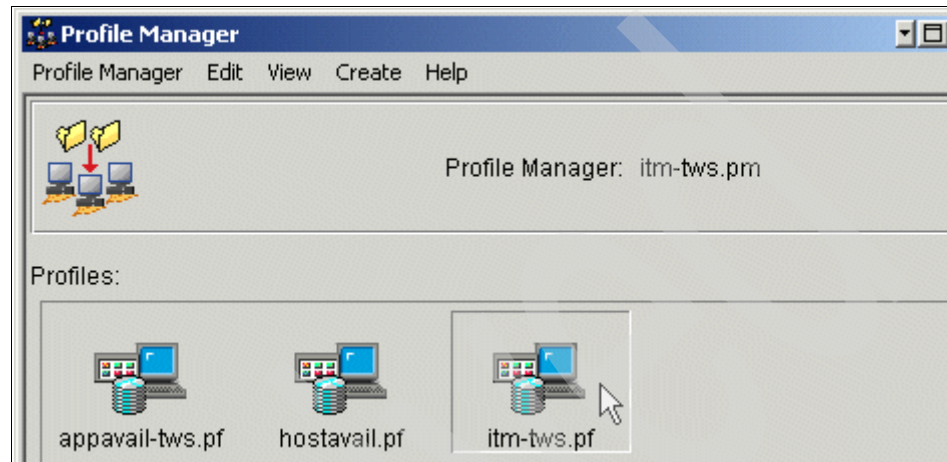

Figure 9-111 Opening the itm-tws.pf Tivoli Monitoring profile
1. From the itm-tws.pm profile manager, double-click the itm-tws.pf Tivoli Monitoring profile as shown in Figure 9-111.